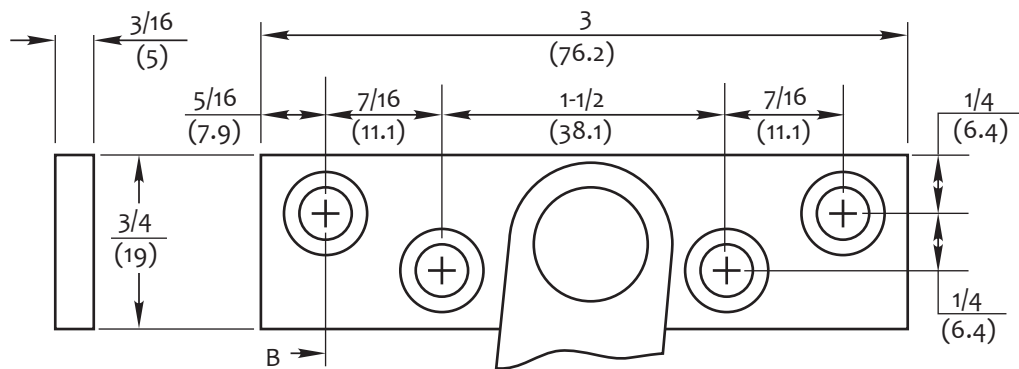

Figure 2 Jamb bracket screw hole dimensions
- Mark jamb bracket position. (Figure 2)
- Make 13/16" depth cutout for jamb bracket (Figure 2)